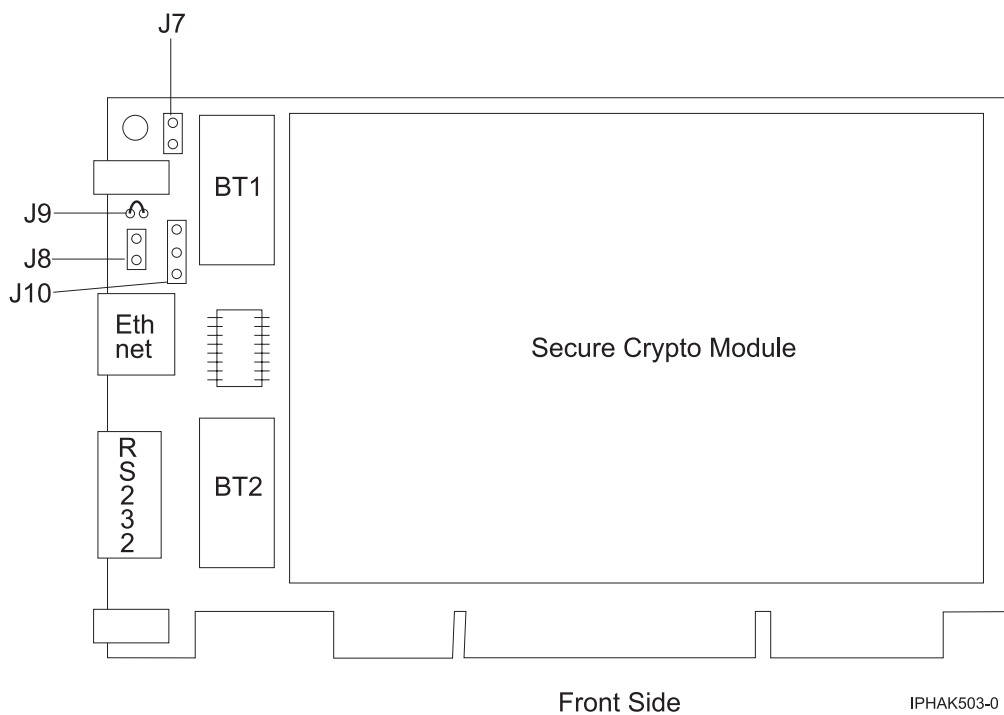

Figure 45. Front side of the adapter
6. Insert one of the new batteries into the battery tray provided with the kit. Align the + on the battery with the + on the battery tray (the end with the red wire). Connect the tray wires to the J10 connector located near the RS-232 serial port, as shown in Figure 45 on page 161. The connector is polarized to ensure a correct connection.